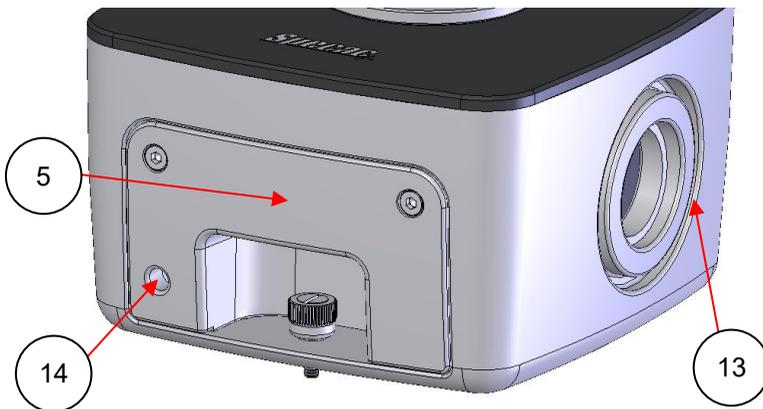
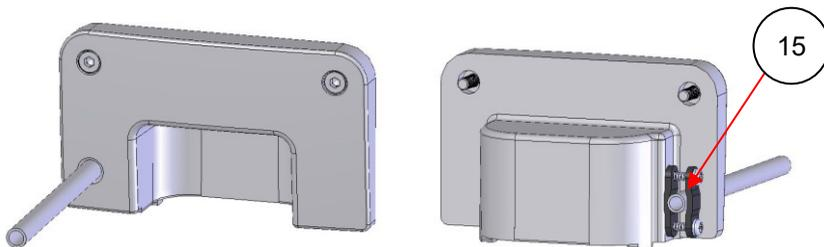
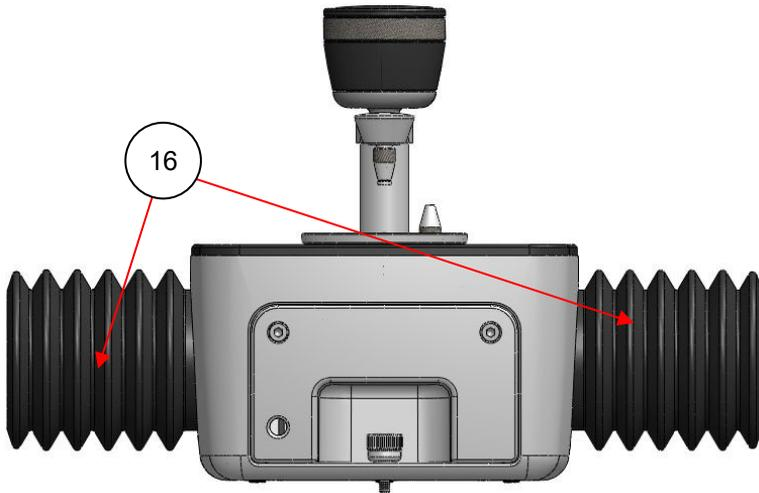

Figure 7-1: Aperture Ports and Purge Connection on the Quest ATR Optical Unit
Figure 7-2: Front Cover Plate with Purge Tube – Front and Back Views
Figure 7-3: Quest ATR Accessory fitted with Purge Bellows
- 13) Aperture port on optical unit (Figure 7-1).
- 14) Purge tube location port in front cover plate (Figure 7-1).
- 15) Curved grip plate for purge tubing in front cover plate (Figure 7-2).
- 16) Purge bellow (Figure 7-3).
The Quest is fitted with an optional purging port into which 1/4" tubing can be inserted. This is useful for suppressing atmospheric water vapor and/or CO₂ with inert gas from a cylinder or from a purge gas generator. To fit a purge line remove the front cover plate (5), push your tube through the purging port (14) and secure in place using the curved grips (15), as shown in Figure 7-1 and Figure 7-2. Then refit the front cover plate (5).
A pair of purge bellows (16) (P/N GS10707) are supplied to help maintain the purged environment inside the accessory. They attach to the accessory's two aperture ports (13) and seal the gaps between the accessory and the spectrometer bulkhead (see (see Figure 7-1 and Figure 7-3.)